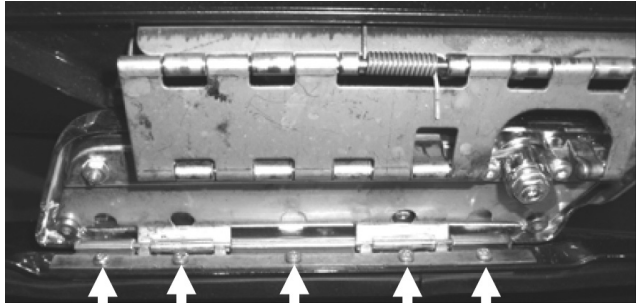

Figure 1.4
2. With the tether off, fold the factory lid all the way over, exposing the 5 screws highlighted by white arrows in Fig 1.4. When these are removed, the factory lid will be free from the saddlebag.